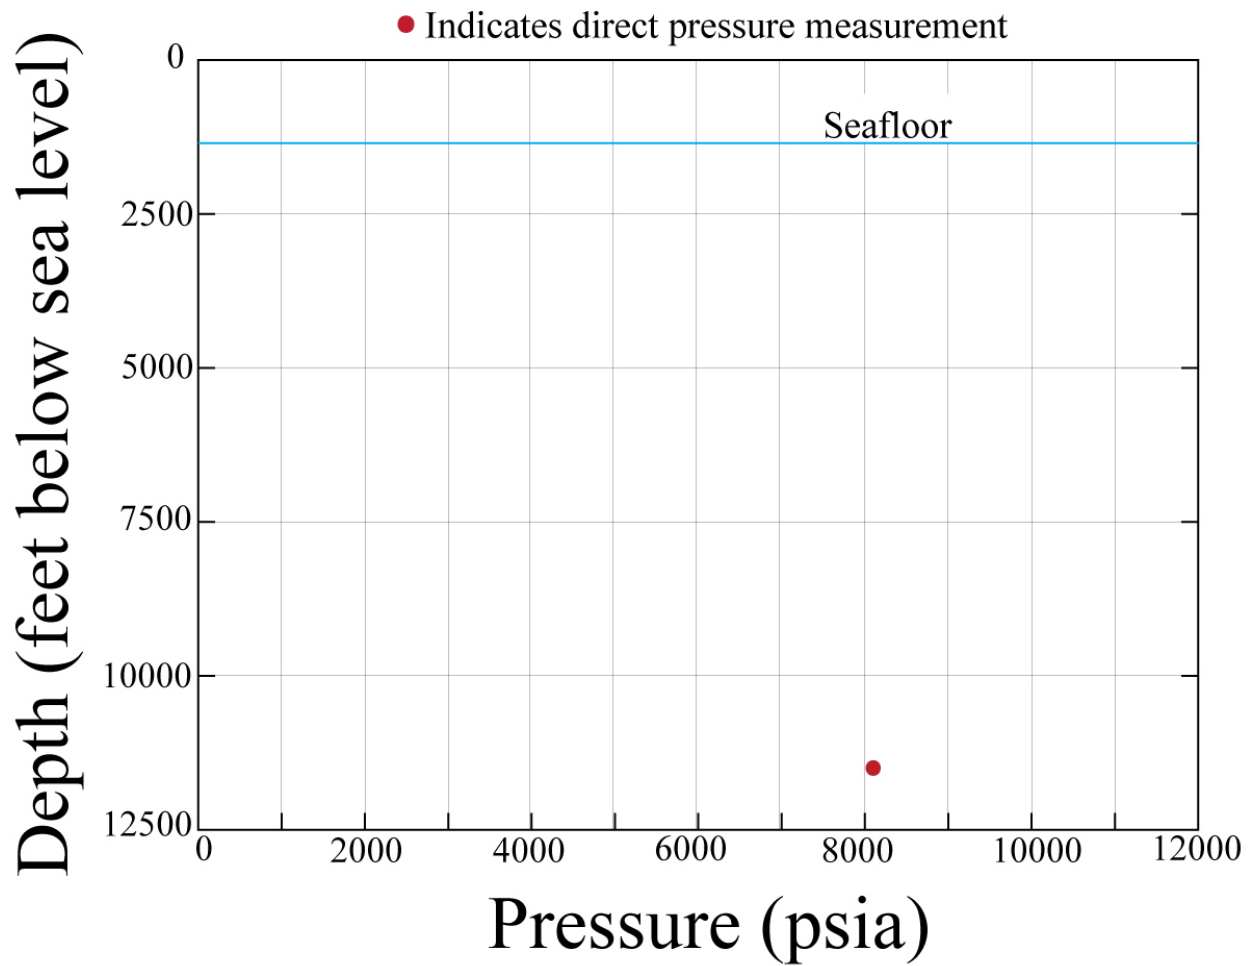

Figure 4: Graph paper for question 1. Plot hydrostatic stress, overburden stress, and oil pressure.
- 1) On the graph paper provided (Figure 4), plot the following pressure profiles from sea level through the J3 Sand: 1) Hydrostatic pressure, u_h ; 2) Overburden stress, σ_v . Draw horizontal lines at the structural crest and the oil-water contact.